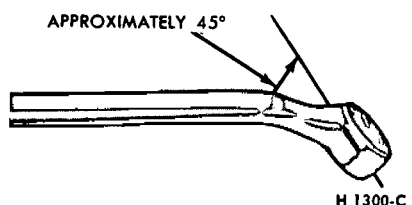

FIG. 5 Wrench for Bleeding Brake Hydraulic System
2. To bleed the secondary (rear) brake system, position a suitable 3/8 inch box wrench (Fig. 5) on the bleeder fitting on the brake wheel cylinder. Attach a rubber drain tube to the bleeder fitting. The end of the tube should fit snugly around the bleeder fitting.
4. If the rear wheel cylinders, the secondary brake system, are to be bled, position a 3/8 inch box wrench (Fig. 5) on the bleeder fitting on the right rear brake wheel cylinder. Attach a bleeder tube to the bleeder fitting. The end of the tube should fit snugly around the bleeder fitting.